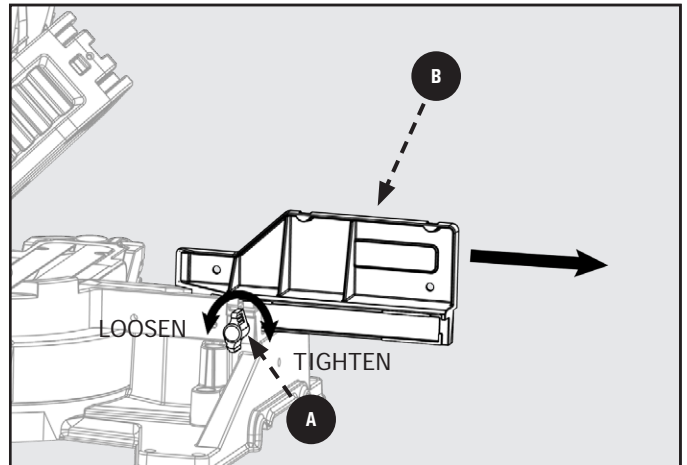

Figure 38
1. Loosen the fence lock knob (A). Slide the upper (adjustable) fence completely out of its track and set to the side. See Figure 38. (Both fences need to be removed).